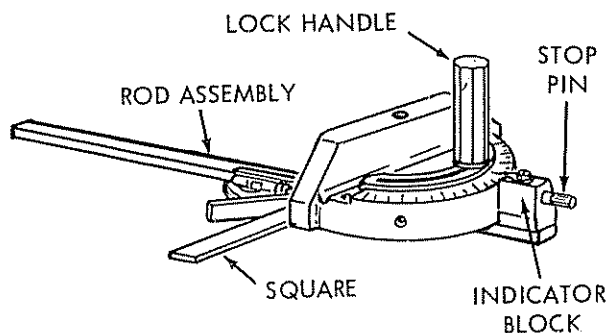

Figure 33
- (1) Loosen the lock handle and push stop pin firmly into the middle detent ("0" position on the scale). The stop pin will be seated more effectively if it is rotated slightly as it is being "pushed" into the detent. Tighten the lock handle firmly hand tight. (See figure 33.)
- (2) Using a combination square, check for an exact 90-degree angle between the miter gauge and rod assembly. If this measurement is exactly 90 degrees, the adjustment has not been disturbed and the gauge is ready for use. If not accurate at 90 degrees, adjust the gauge as follows: